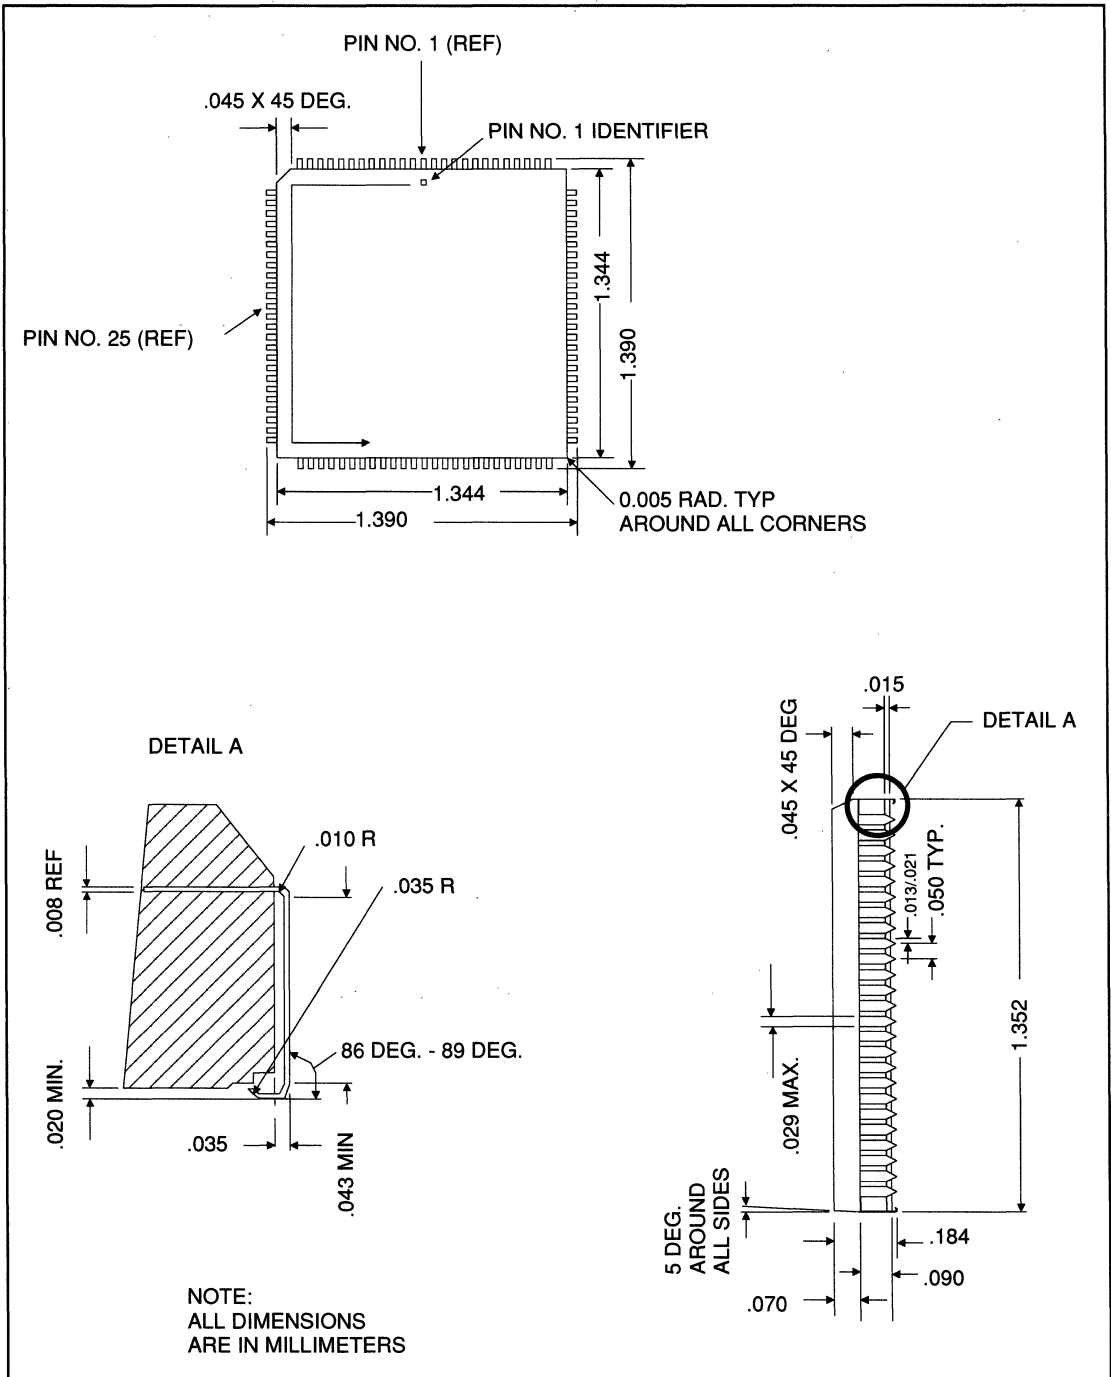

FIGURE 5-1. 100-PIN PLCC PACKAGING DIAGRAM
- \* A block diagram of the data bus hardware on the PC AT board is shown in Figure 5-1. It represents the equivalent 74LSXXX circuitry for the data buffers contained on the board. Signals used in this document are discussed in Table 6-1.